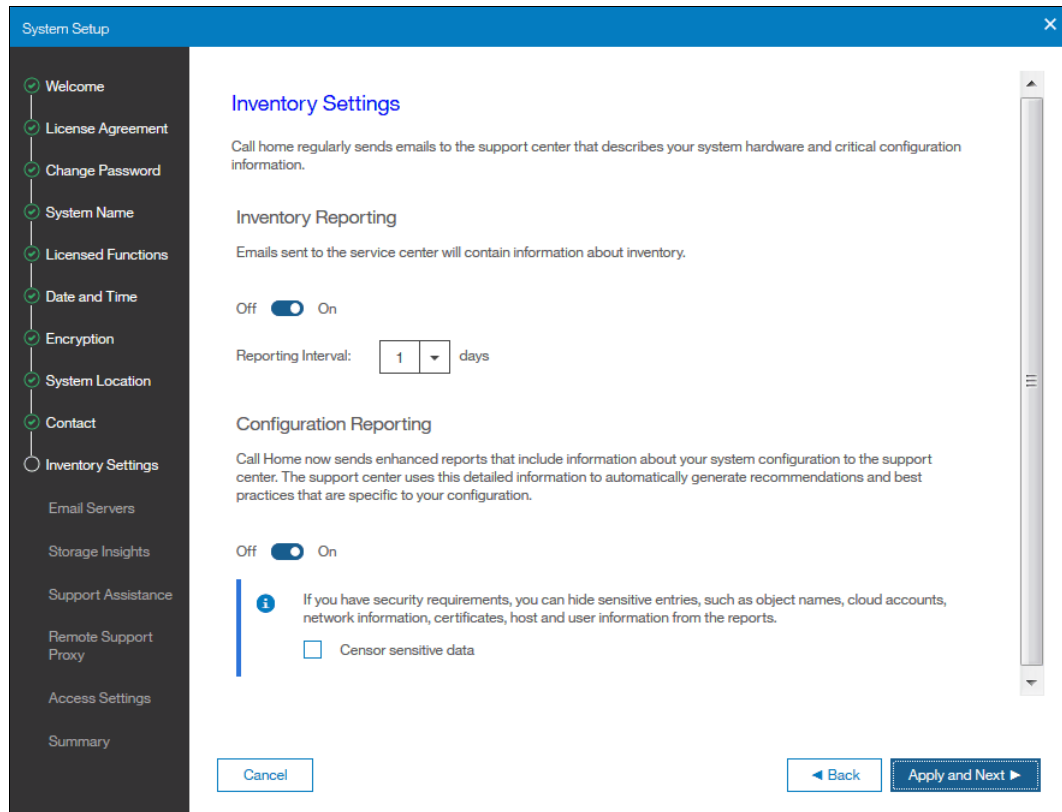

Figure 2-34 Setup wizard: Inventory Settings
14. If you plan to enable Call Home, you also can add Inventory and Configuration details. To add this information, you must enable one or both functions, as shown in Figure 2-34.